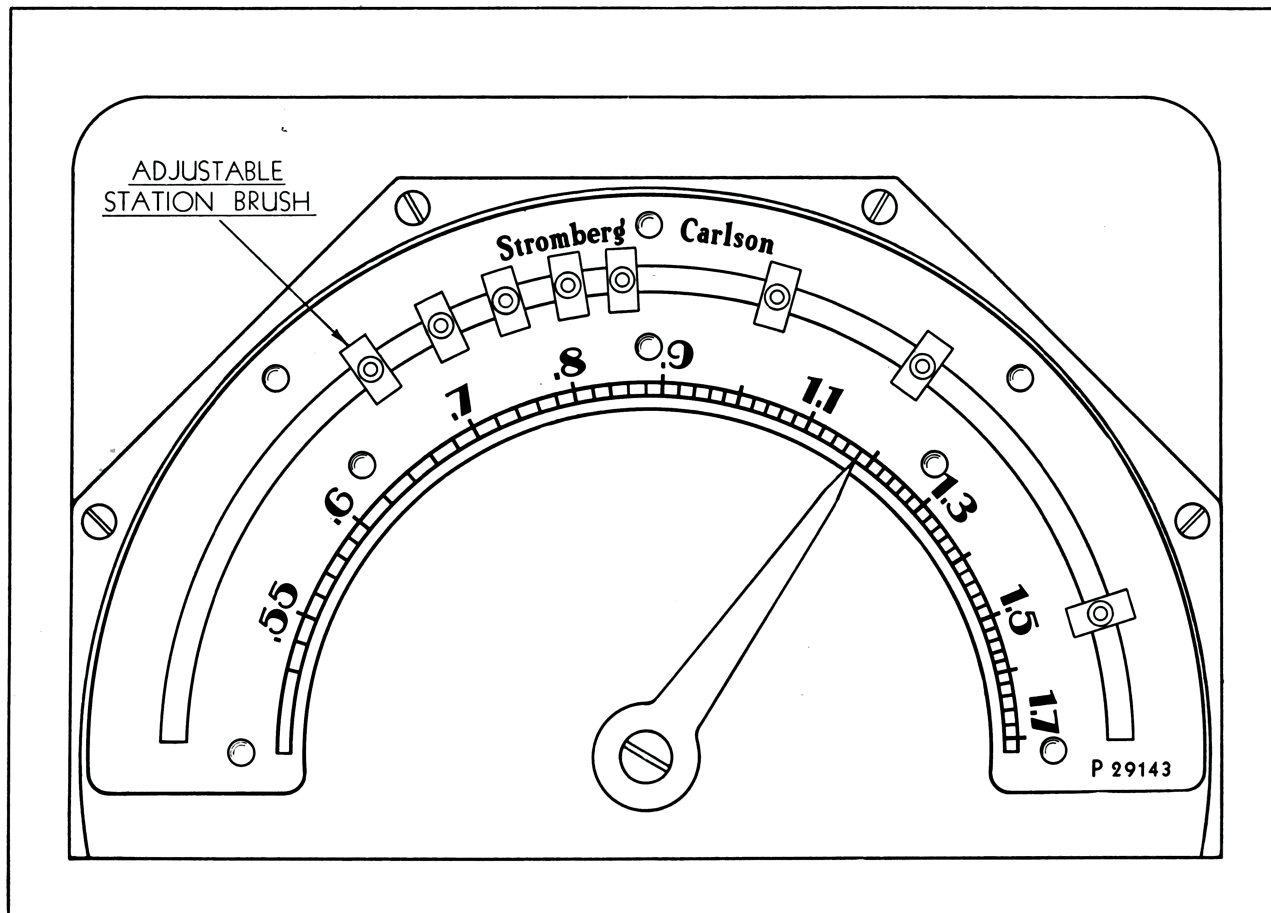

Figure 2.
8. Facing the rear of the receiver, it will be observed that the commutator assembly located on the rear of the gang tuning capacitor (see Figure 2) has a calibrated dial and dial pointer. After manually tuning in the favorite broadcast station as mentioned in paragraph 7 above,